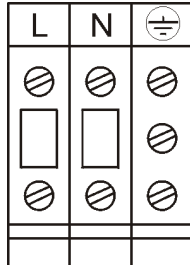

Figure 10. LP 5/6-11U:
1. Connect the utility supply wires to terminals L, N and GND (equipment grounding conductor). See figure 10. Ground connection is essential!